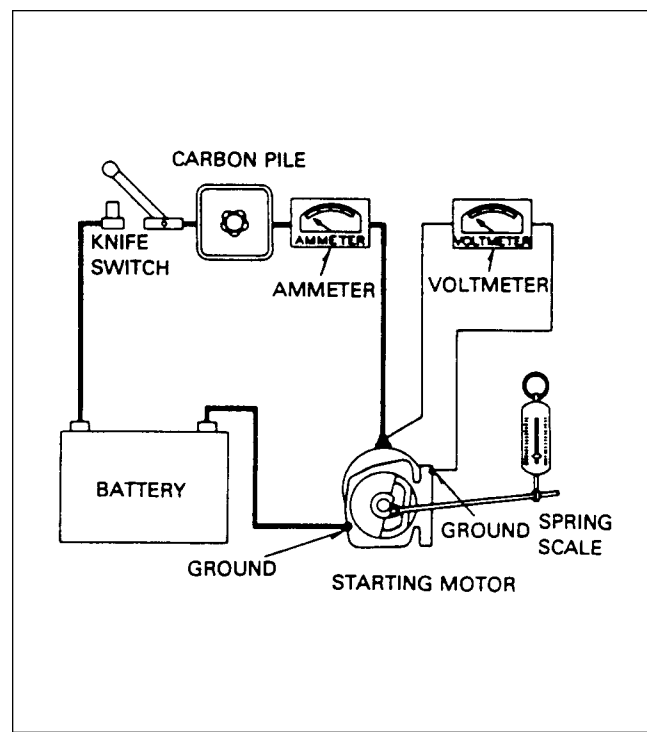

Figure 80-6. Stall-Torque Hook-up
2. If no difficulty is indicated in above test, a stall torque test may be made to see if starting motor is producing its rated cranking power. Make test connections as shown in figure 80-6.